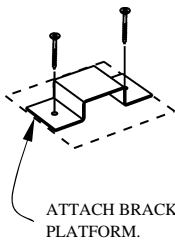

Fig.4
3. Attach the mounting brackets to the beam and platform using two screws in each bracket. The brackets should be centered on the post location marks from step 1. See Fig.4.